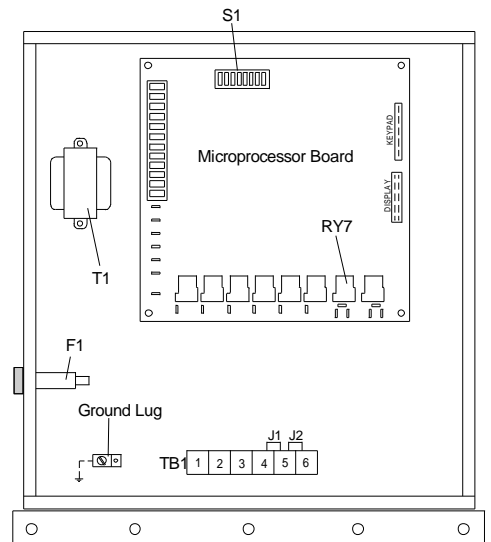

Figure 4. - Electrical Control Box Interior
2. Check the Unit fuse (F1) to insure that it is properly installed (see Figure 4 on page 17).
The microprocessor circuit board contains the central processing unit that monitors the various sensor inputs and controls the appropriate outputs such as the relays to activate the various purge functions. (see Figure 4 on page 17)
Remote purge fault alarm relay RY7 is used to enunciate a purge fault alarm at a location remote from the purge unit. (see Figure 4 on page 17).
Terminal block TB1 is a terminal strip used for field wiring to the purge unit (see Figure 4 on page 17).
Transformer T1 is a 12 volt power transformer used to power the microprocessor circuit board (see Figure 4 on page 17).
To change the purge unit's operational parameters, temporarily switch Dip switch S1-position 4 to the "ON" position (this disables the Security Lock feature -- see Figure 4 on page 17 for Dip switch S1 location). **Once operational parameters are set, switch S1-position 4 back to the "OFF" position.** (This re-enables the Security Lock feature.)